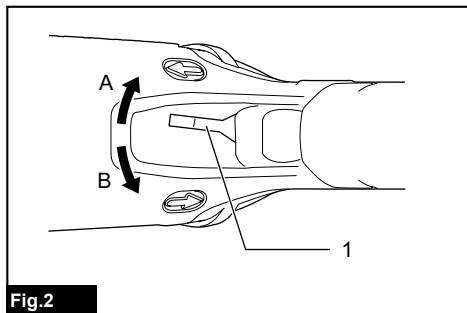

Fig.2
► Fig.2: 1. Reversing switch lever